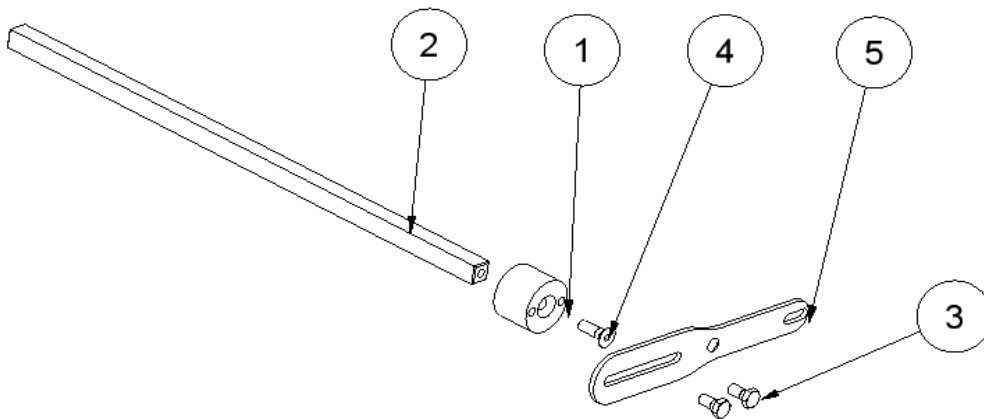

Figure.2
2. **ARMS AND HANDLES ASSEMBLY:** Each arm (2) must be joined to an arm support (1) through a M8x25 SIN 7991 countersinks screws (4). Once together, they must be joined to a handle (5) through two M8 x 16 DIN 933 8.8 (3) screws, making sure that the countersink of the handle is on its inner face, – Fig. 2 –.